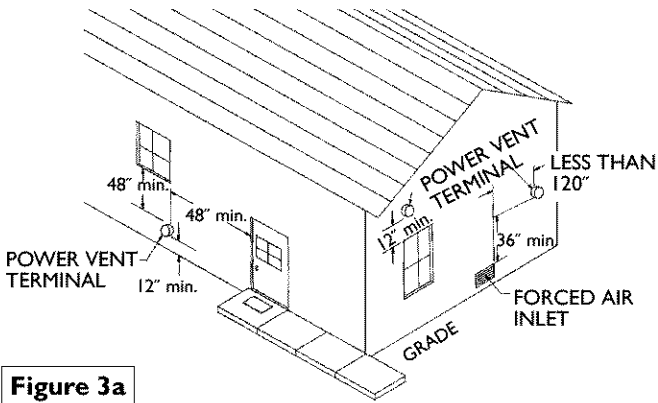

Figure 3a
- The Power Vent outlet terminal shall terminate at least 36" above any forced air inlet located within 10 feet. Figure 3a.
- The Power Vent outlet terminal shall terminate at least 4 feet below, 4 feet horizontally from or 1 foot above any door, window or gravity air inlet into the building. Figure 3a.